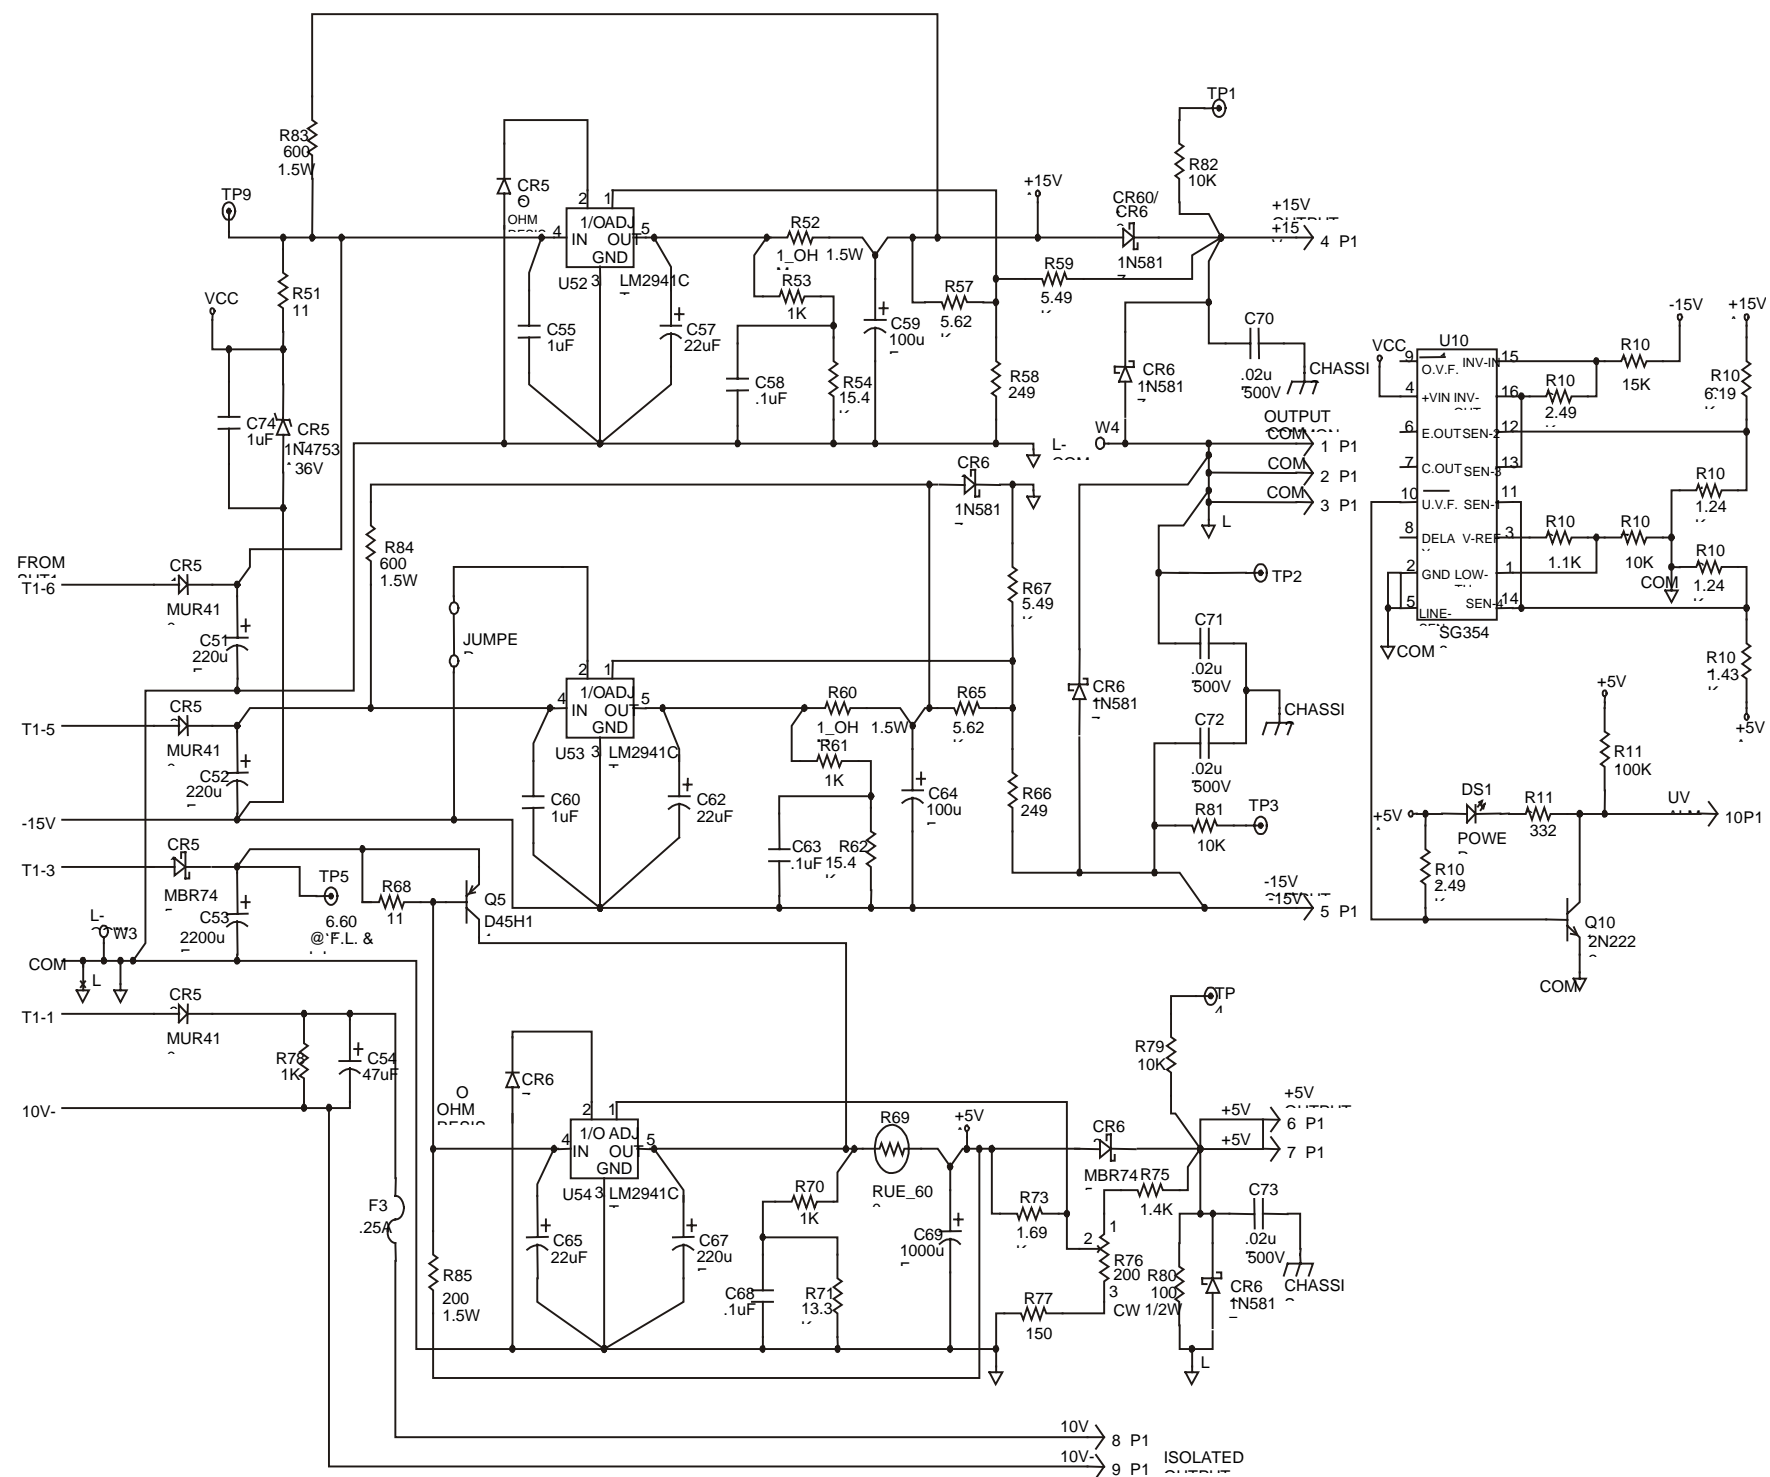

Figure 13-6. Schematic Diagram, 9745A Power Supply (Drawing No. D-105174-E) Sheet 2 of 2
6. Figure 13-6. Schematic Diagram, 9745A Power Supply (Drawing No. D-105174-E)